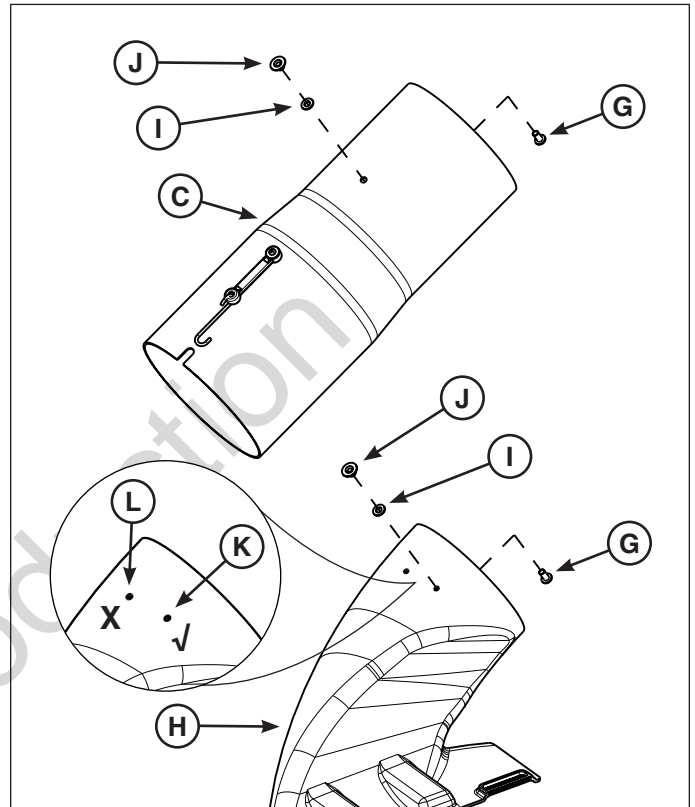

Figure 7
2. Install the two 5/16 x 5/8" machine screws (G, Figure 7) out through the noted holes in the lower catcher tube (C) and catcher boot (H), securing each with a 5/16" small OD flat washer (I) and tee-nut (J). Tighten securely.